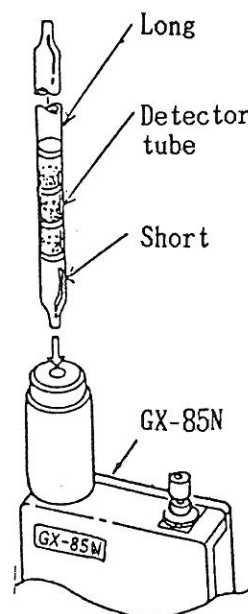

Fig 3-3
- 3) Put the tube into the tube adaptor by checking the direction of tube (Fig 3-3).